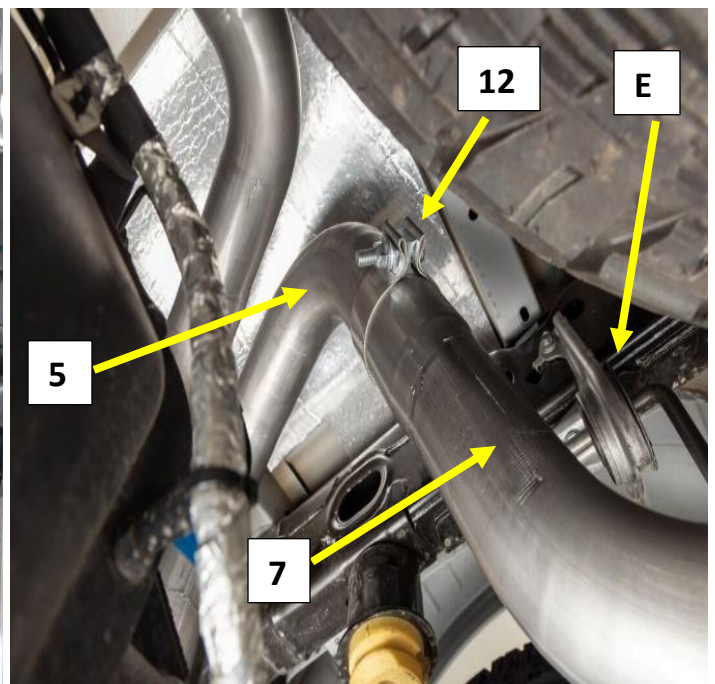

Figure.14
3. Install a 3" band clamp (12) on to the expanded end of the right tail Pipe. **Fig.14**
4. Install the right tail pipe (7) on to the right muffler outlet Pipe (5). **Fig.14**
5. Install the right frame hanger (E) on to the tail pipe hanger rod. Install the (x2) bolts. **Fig 14**
6. Tighten the clamp (12) to allow for adjustment. **Fig.14**